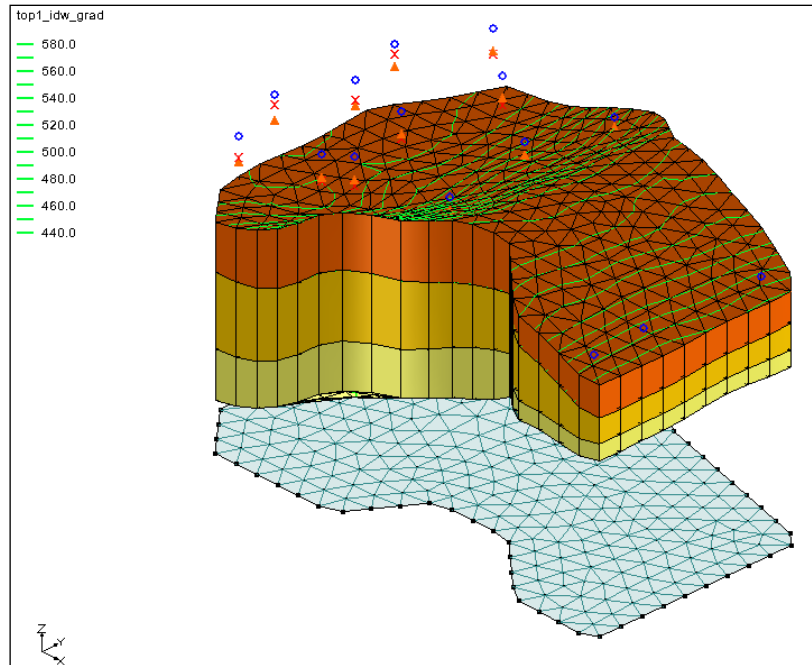

Figure 6 The final view after the 3D mesh is created
4. Click **OK** to close the *Display Options* dialog. The Graphics Window should appear similar to Figure 6.